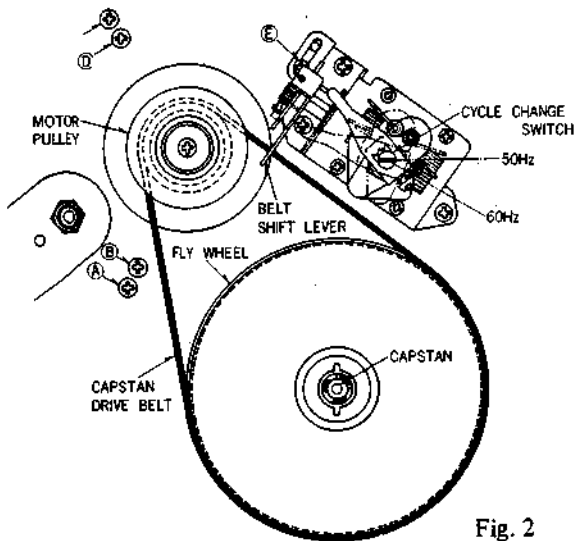
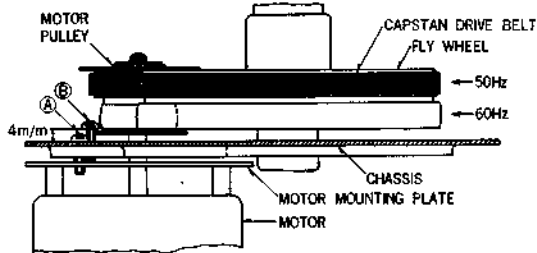

Fig. 2
Fig. 1
The Capstan Drive Belt should run in the center of the Motor Pulley and Flywheel, as shown in Figure 1. To position the Capstan Drive Belt, with proper clearance between the Motor Mounting Plate and the Chassis, use adjusting Screws (C) and (A), shown in Figure 2. After adjustment, tighten Lock Screws (B) and (D).
- 1) With Motor rotating in the Normal direction, loosen Screws (B) and (D) and adjust Belt position by turning Screw (C).
- 2) With Motor rotating in the Reverse direction, adjust Belt position by turning Screw (A). After Drive Belt position has been properly adjusted to run in the center of the Motor Pulley and Flywheel (according to direction of motor rotation), lock by tightening Screws (B) and (D).
- 4) If the Drive Belt contacts the Belt Shift Lever, loosen Screw (E), and move the Belt Shift Lever Stopper so that the Belt does not contact the Shift Lever.